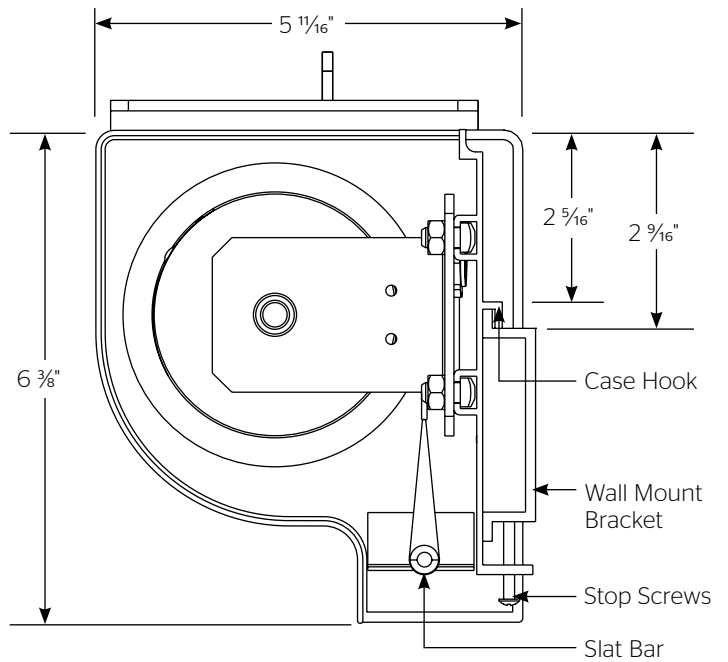

Figure 1
- Using a #2 Phillips screwdriver, loosen the two stop screws and remove the wall mount bracket from the back side of the case (Figure 1).
- Tighten the two stop screws against the wall mount bracket using a #2 Phillips screwdriver (Figure 1).